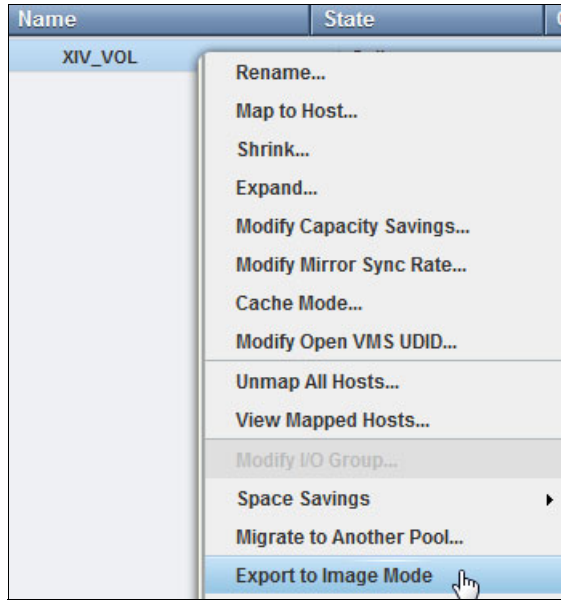

Figure 5-16 Export to Image mode
1. Click **Pools** → **Volumes by Pool**, right-click XIV_VOL, and select **Export to Image Mode**, as shown in Figure 5-16.